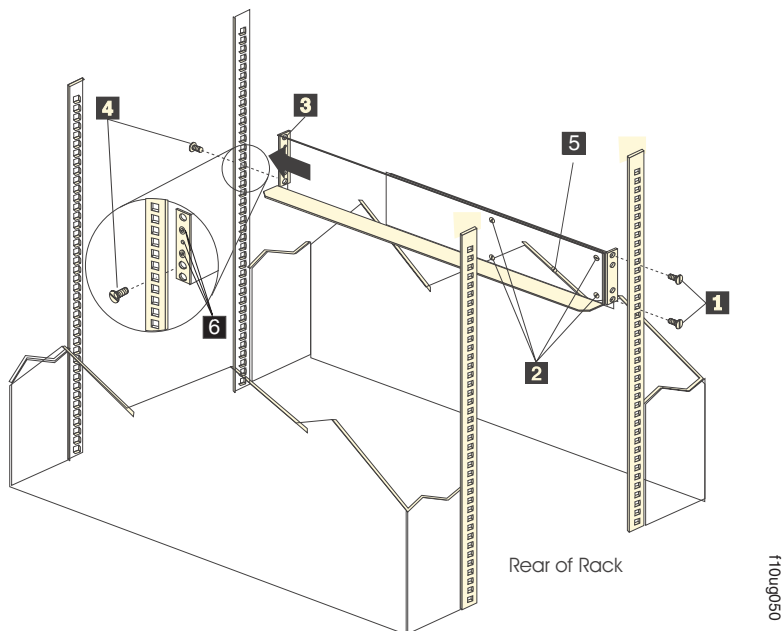

Figure 12. Installing the support rails
Note: Refer to Figure 12 on page 24 while performing these steps.
Note: The support rails are not marked as Left or Right. However, each rail can be correctly mounted on only one side of the rack cabinet. The rails should be mounted with the alignment pins at the front of the rack cabinet. Figure 12 shows the installation of the left support rail.
- c. From the back of the rack cabinet, insert the two 6/32 in. screws (**5** in Figure 12 on page 24), one on each side, in the holes located on the tab on each side of the unit. Tighten the screws.